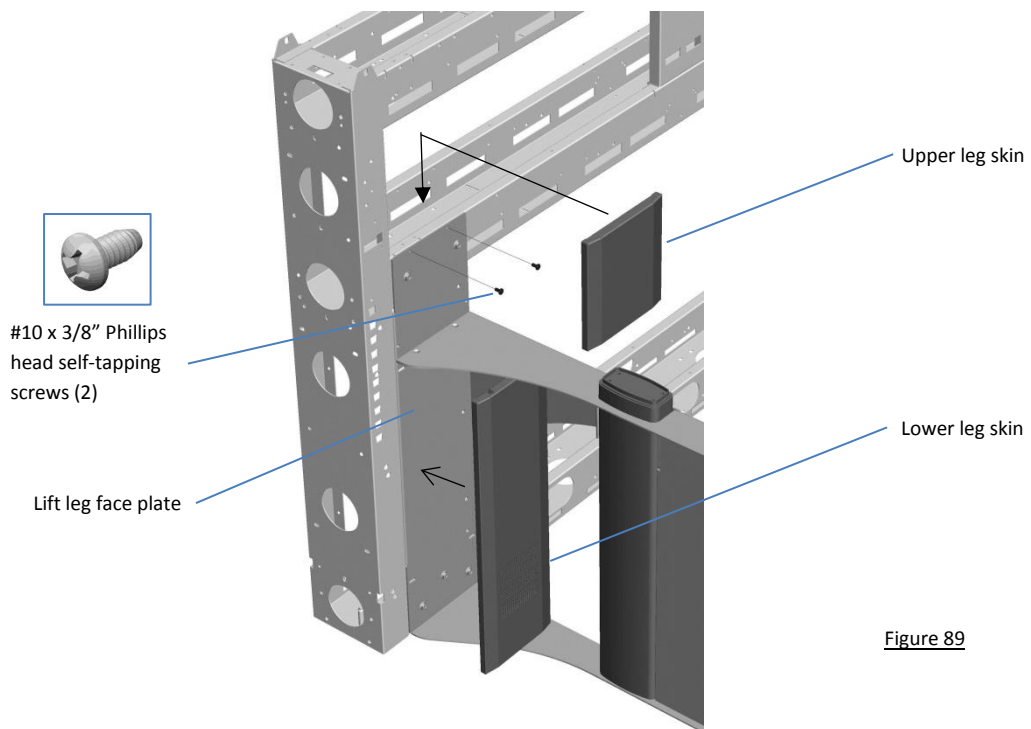

Figure 89
- c. Install (2) #10 x 3/8" Phillips head self-tapping screws into the top of the lift leg face plate. Leave the screws protruding about 1/16". Engage the "U" slots in the top of the upper leg skin onto the screws. The lower leg skin magnetically attaches to the face plate. See figure 89.